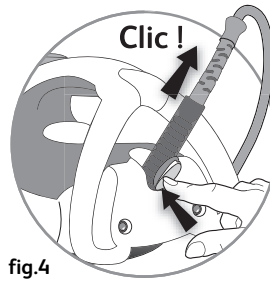

fig.4
- Press the button located on the base (fig.4) and the Easycord system is automatically deployed. You can now plug in your appliance and begin ironing.